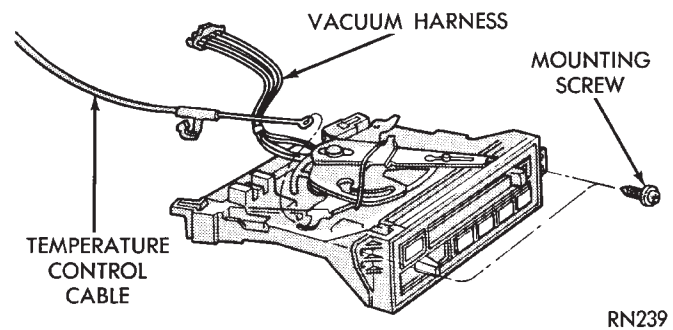

Fig. 23 A/C Heater Control
- (1) Remove center bezel assembly.
- (2) Remove A/C control to instrument panel retaining screws (Fig. 23).
- (3) Pull control rearward and disconnect temperature control cable and electrical and vacuum connectors.
- (4) Remove control from vehicle.
- (5) For installation reverse above procedures.